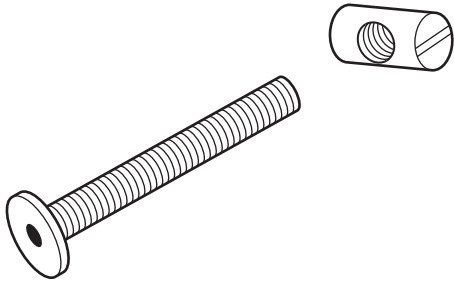

Fig. 2a
- 5 Fig. 2a shows a scan fitting. Complete Fig. 2b to show how a scan fitting could be used to join the rail and leg.